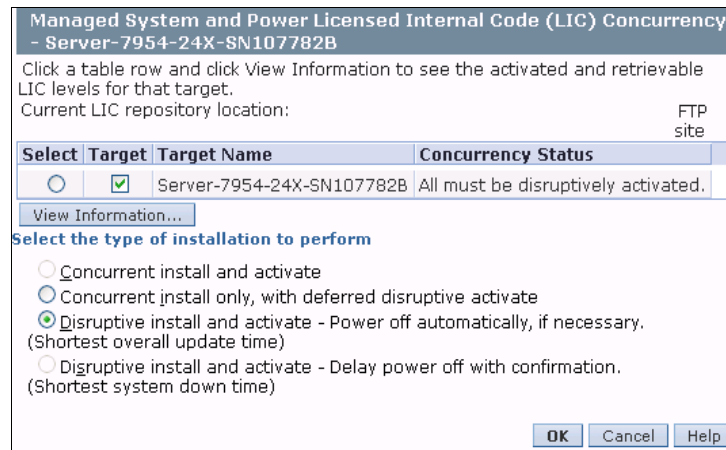

Figure 7-126 Update installation concurrency options
- The update concurrency window (as shown in Figure 7-126) shows the options that are available for a disruptive (in this example) or nondisruptive installation. Invalid options cannot be selected. After you choose the wanted option, click **OK**.